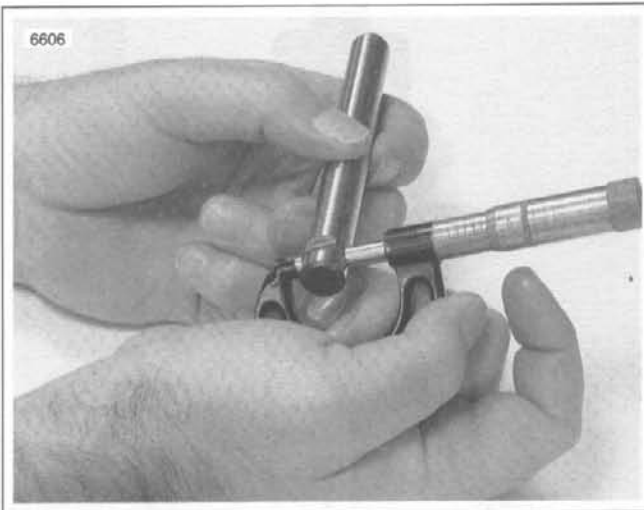

Figure 3-12. Measuring Rocker Arm Shaft Diameter (Rocker Cover Position)
- a. See Figure 3-12. Measure where shaft fits in lower rocker arm cover.